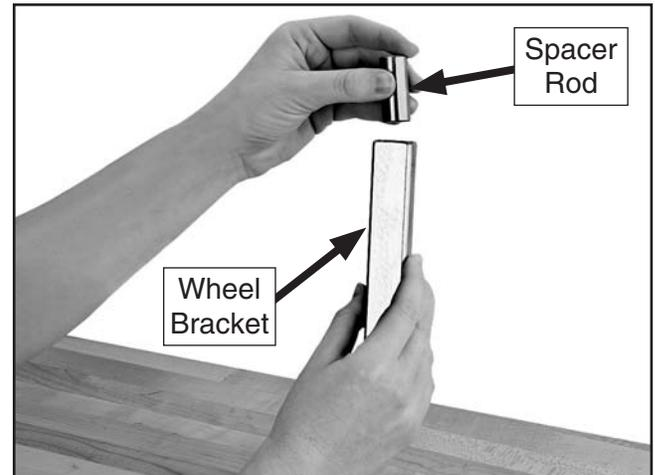

Figure 4. Inserting spacer rod into wheel bracket.
1. Insert the bracket spacer rod into the bottom of the lower wheel bracket, as shown in **Figure 4**.